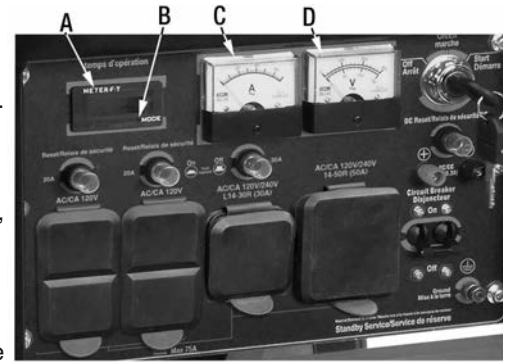

Figure 13
The control panel contains a running time digital meter (A) Fig.13, this meter has 3 display modes. To toggle through the 3 modes, press the small mode button (B).
The control panel contains an ammeter (C) Fig.13 and a voltmeter (D). The ammeter indicates the amperage load of the generator and the voltmeter indicates the voltage rating of the generator.